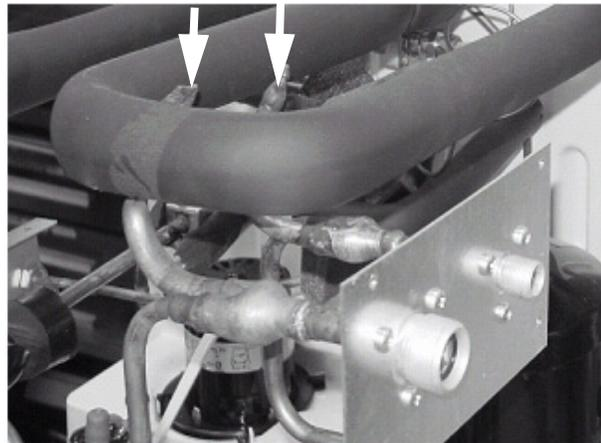

Figure 44.
44. Pinch off and braze shut the charging ports behind the Aeroquip fittings (Figure 44).